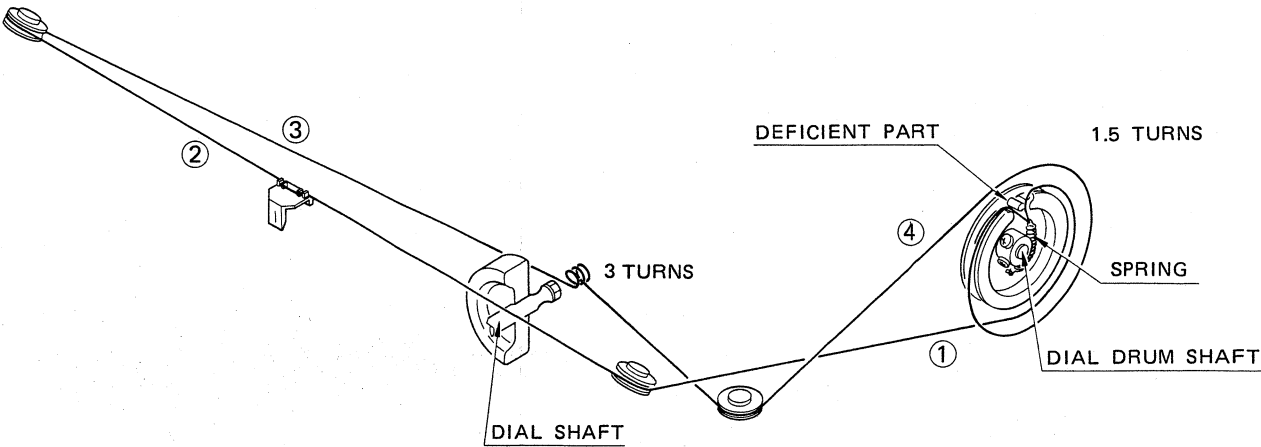

Figure 7
3. String the dial drum and pulleys with a new dial cord as shown in Fig. 7 (in circled numbered order).